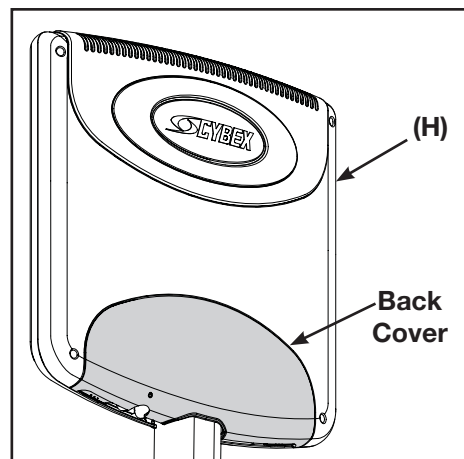

Figure 21
H. Install the back cover to the monitor (H). See Figure 21.